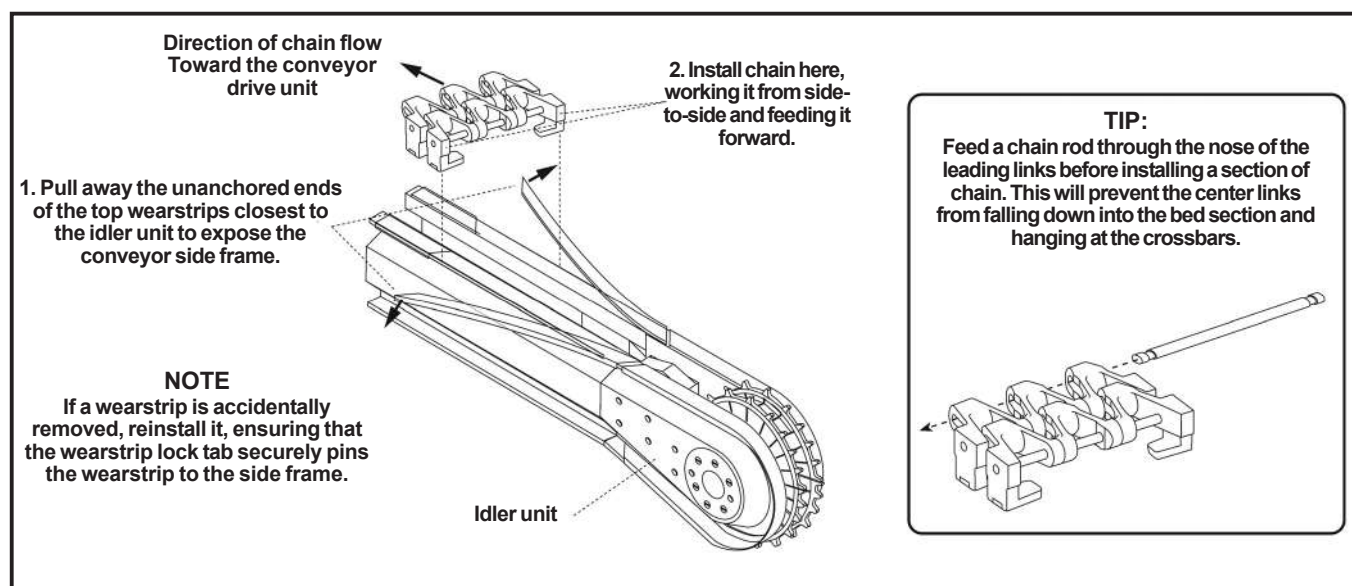

Figure 28: Chain installation
- Start at the “Idler” end of the conveyor when installing the chain (*Figure 28*).